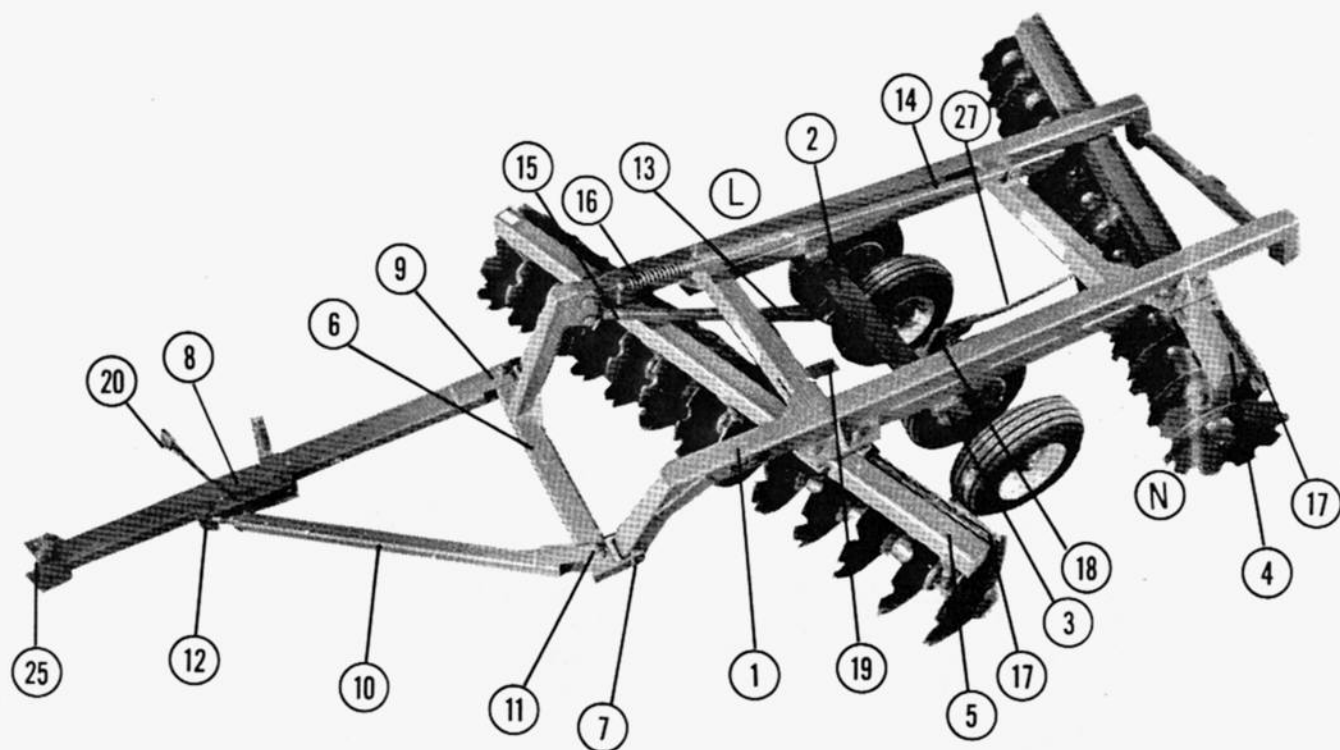

Figure 1
- 1. Hydraulic Cylinder and Hoses:** (Refer to Figure 1) A standard 8" stroke double acting hydraulic cylinder is required to lift disc. Two 18 ft. hydraulic hoses are needed to allow full offsetting and turning without hose damage.
- 2. Angle Changing:** (Refer to Figure 1) To change angle. Raise disc on wheels until discs are clear of ground. Remove bolt(21) and loosen the three remaining bolts. Slide gang bar forward or backward as desired. Replace bolt and tighten all bolts securely. For ordinary conditions set both front and rear gangs in next to maximum angle. Increase angles as required to suit conditions.
- 4. Offsetting The Hitch:** (Refer to Figure 1) This unit is designed to trail straight behind the tractor. Minimum side draft will be obtained when the hitch is in line with outside beam of main frame. If more adjustment is required screw hitch side arm eye bolt(12) to desired position, then retighten jamb nut to reduce pressure on eye bolt thread.
- 5. Hitch Height:** (Refer to Figure 1) The hitch pole should always be as near level as possible when discing. Flapper hitch(25) can be raised or lowered to proper tongue level of tractor. (Not adjustable on Series 250)
- A. Front to Rear:** (Refer to Figure 1) With disc raised and hitch to tractor, adjust bottom fore-aft eye bolt(15) until main frame is level. Adjust fore-aft spring lock(16) until spring is snug. The top spring should be under some compression when discing, but should never be compressed solidly. **NOTE:** In general use as little pressure as possible when discing.
- 7. Transporting:** (Refer to Figure 1) Disc may be transported without using hydraulic cylinder. Place the rod(27) through the hole in anchor on frame(1) and place clevis over transport block. Raise the disc until the cylinder has reached the end of its stroke. Insert pin in clevis and adjust transport rod nut until there is about $\frac{1}{8}$ " between nut and transport anchor. Release pressure on hydraulic cylinder and remove. **CAUTION:** Extreme care should be taken not to collapse the cylinder too much with the transport rod in transport position.
- To Install Wheel Carriage and Wheels:** (Refer to Figure 1) Place wheel carriage(2) under the main frame(1) and attach frame with pins(3). Install 5/16 x 2 lock bolts in pins and tighten lock nuts securely. Install wheels on to hubs with wheel bolts provided and tighten securely.
- To Attach Gang Bars to Frame:** (Refer to Figure 1) Bolt rear gang bar(4) to main frame(1) in center set of offsetting holes and in next-to-maximum angle with $\frac{7}{8}$ x 3 1/2 bolts. Install leveling washers on top of angling plates on long side of disc(L). Install leveling washers between gang bar and angling plates on narrow side of disc(N). Bolt front gang bar(5) to main frame in next to maximum angle with $\frac{7}{8}$ x 3 1/2 bolts. Install leveling washers same as rear gang.
- To Attach Hitch Bridle to Frame:** (Refer to Figure 1) Place bridle(6) at front of frame(1) and attach with pins(7). Install lock bolts and tighten nuts securely.
- To Attach Hitch Pole to Bridle:** (Refer to Figure 1) Attach main hitch pole(8) to bridle(6) at lead corner(9) with 1 x 6 bolt. Attach hitch side arm(10) to opposite side of bridle(11) with 1 x 6 bolt. Join hitch pole and side arm with 1" pin at adjustable eye bolt(12). Tighten all bolts securely.
- To Attach Fore-Aft Leveling Assembly:** (Refer to Figure 1) Install short tube(13) to wheel carriage with 1" pin. Install long tube(14) with 1" pin. Slide short fore-aft eye bolt(15) into bottom tube(13) (pinned to wheel carriage) and pin to bottom hole of bridle mast(6). Slide long fore-aft eye bolt c/w spring and washers into top tube(14) (attached to main frame) and pin to top hole of bridle mast(6).
- To Attach Scrapers:** (Refer to Figure 1) Attach scraper bars(17) to gang bars (4 & 5) with carriage bolts provided. Attach scrapers to scraper bar with clamps and bolts provided use care to adjust scrapers close to discs but not rubbing.
- To Double Wide Right and Left Hand Offsets:** (Refer to Double Wide drawing). Set together following regular instructions except item No. 4 - to attach hitch pole to bridle - the hitch pole is attached to the opposite side from the lead corner and the side arm is attached to the lead corner with 1 x 6 bolt. Set left hand disc(1) stationary and pull right hand disc(1) along side leaving front gang of right hand disc behind front gang of left hand disc. Attach rear spreader bar(5) with pins. Attach front spreader bar(6) with pins. Join right hand main hitch pole to left hand main hitch pole(3) with 1 1/4" pin(7). Adjust swivel flapper with 1 x 6 bolt for proper direction(8).